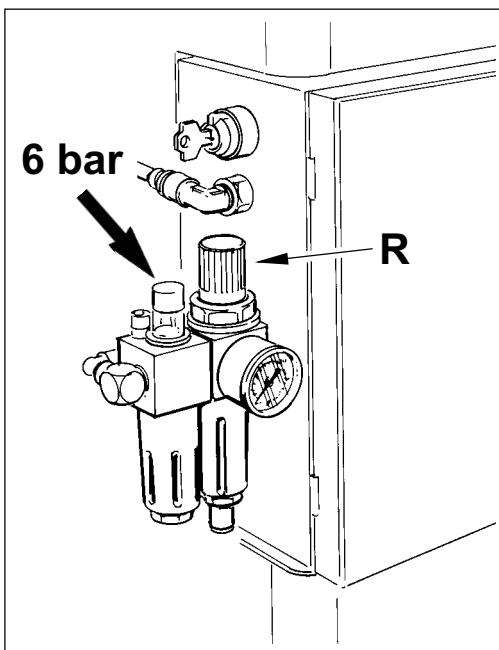

Fig. 4-4 Adjusting pressure
4.4 ADJUSTING THE GENERAL PNEUMATIC PRESSURE (fig. 4-4)